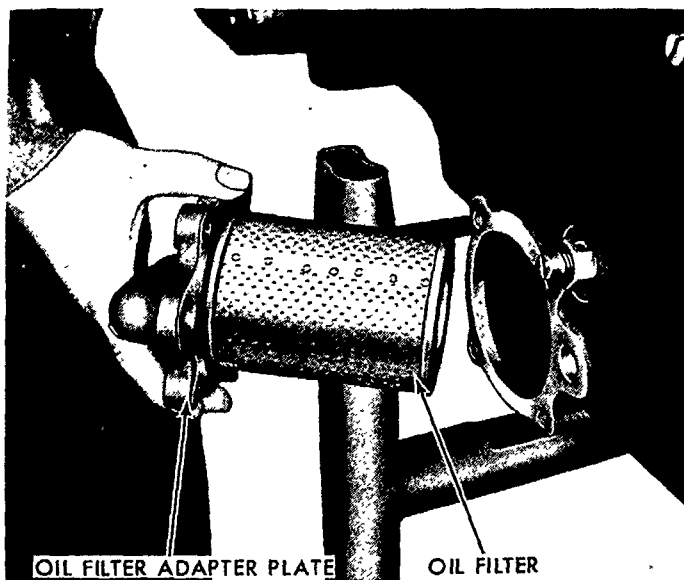

Figure 78
20. Remove the four filter cover adapter plate bolts and remove the plate and filter as shown in Figure 78. Unscrew the filter from the adapter and discard the filter.